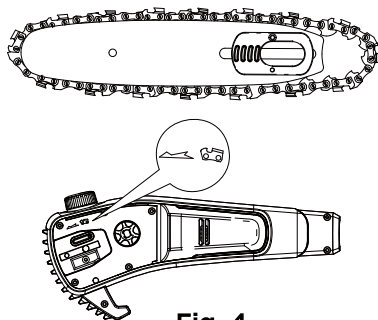

Fig. 4
2. Slide the chain in the slot around the guide bar, making sure the chain is installed in the correct rotation direction. (Fig. 4)